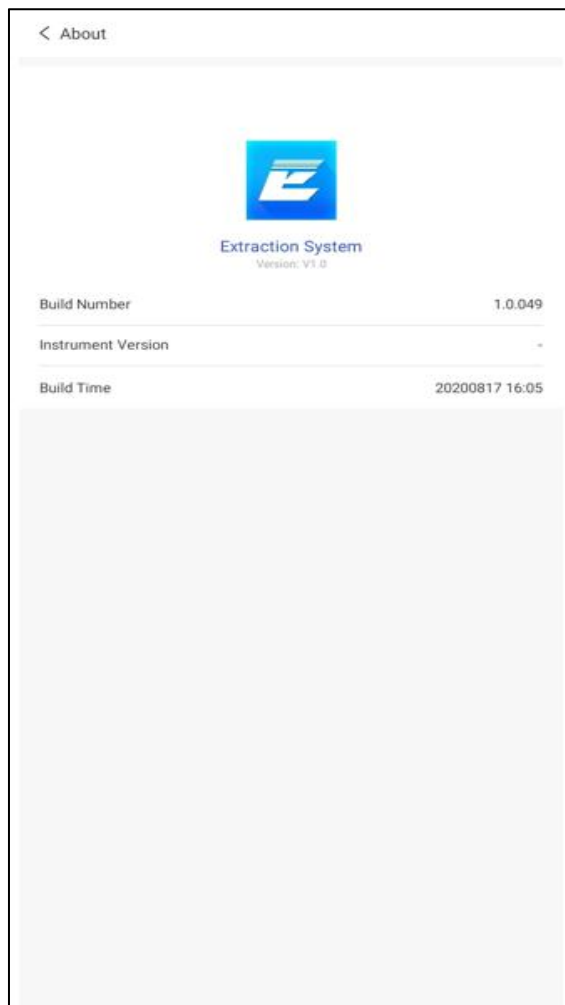

Figure 5-18. Setting Interface – About
6. **About:** intended to view the version information of the current application software, as shown in figure 5-18.